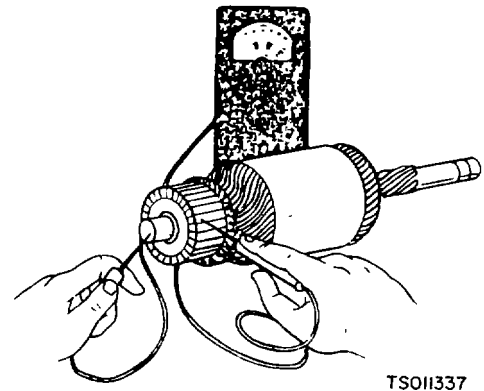

Figure 6-4. Test for Grounded Armature
(1) Testing for grounds. Test the armature for grounds by touching the armature shaft or core and the end of each commutator bar with a pair of ohmmeter leads (fig. 6-4). If the ohmmeter reading is low, it indicates a grounded armature. Replace armature.